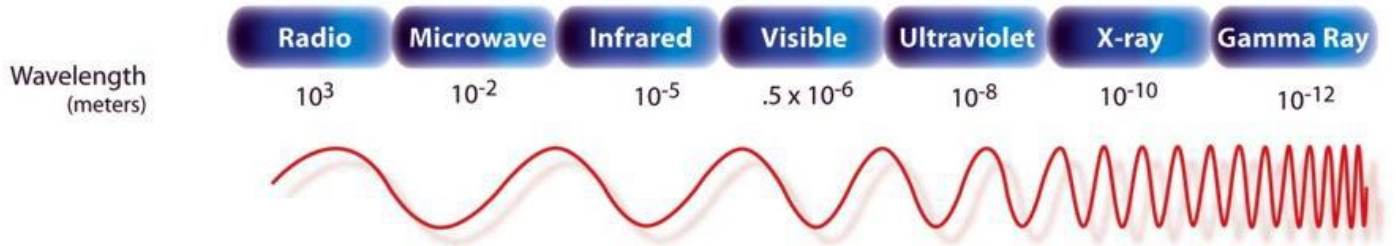

Figure 1: The electromagnetic spectrum, with the wavelengths of the associated photons
The energy of a photon is a function of its wavelength; the lower the wavelength of the photon, the higher its energy. Because an atom is composed of many different electron orbitals, each of which are associated with specific energies, many different electron transitions are possible. This means that photons of various energies can be produced by a single atom. Because the photon’s energy is related to its wavelength, atoms can emit EMR of a wide range of wavelengths, including short wavelength Ultraviolet (UV), longer wavelength visible light, and even longer wavelength infrared radiation (see Figure 1).